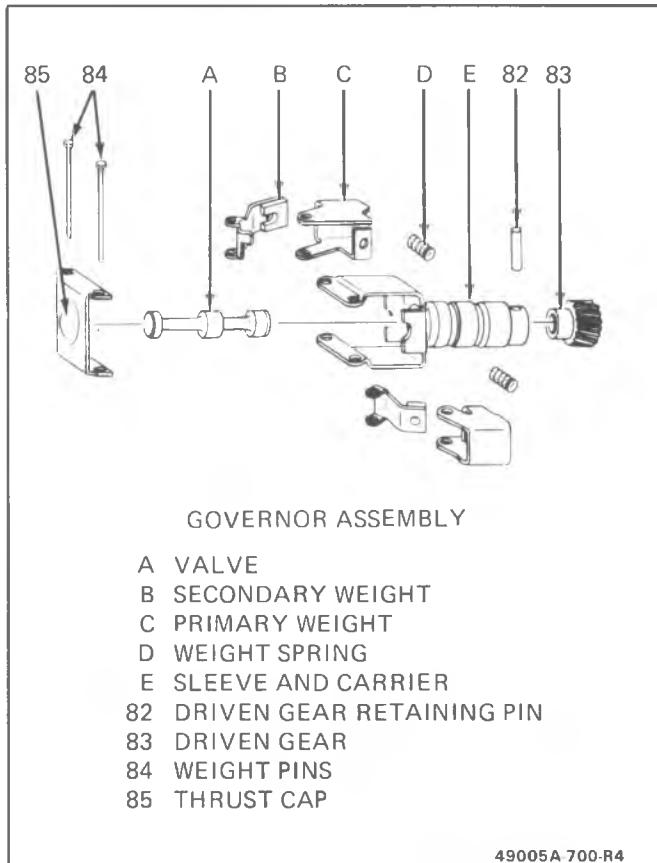

Figure 162 Governor Assembly
Inspect (Figure 162)
- press gear (83) into the sleeve until seated.
- Install retainer pin (82) and stake.
4. Retaining pins (84) into the thrust cap (85) and governor assembly
5. Stake the retaining pins (84).
- B (Figures 162, 163)
1. Governor assembly (45) into the governor bore
2. Governor Cover (46)